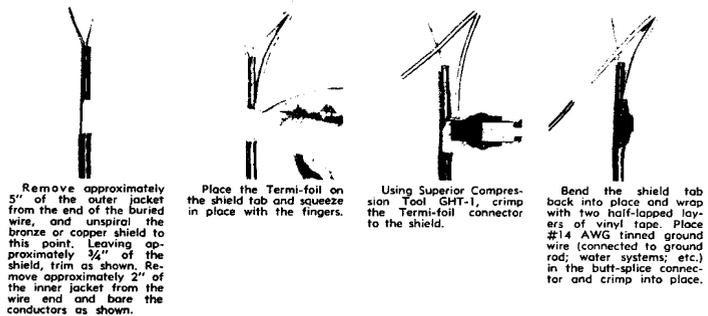

FIGURE 3. Bronze Shield or Direct Buried Wire Terminated in a Grounding Harness
2.05 Where the direct buried wire is over 500 feet in length and the armor wire of the wire is to be grounded to the cable terminal, terminate the armor wire in a grounding harness connector as shown in Figure 3.